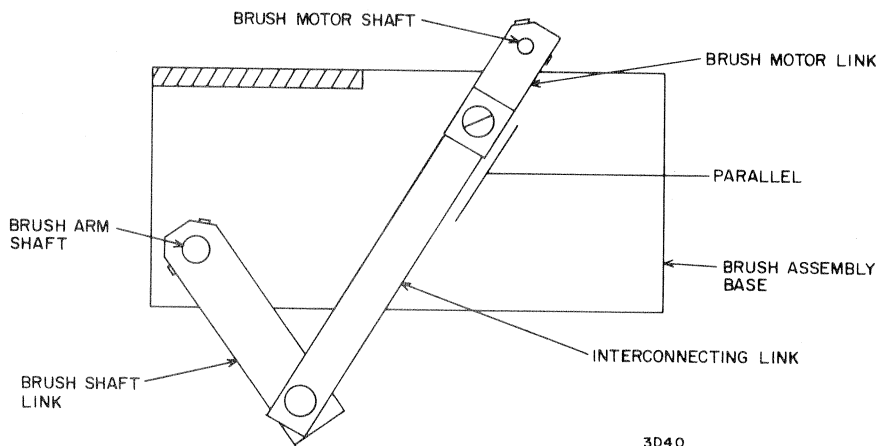

Figure 6-4. Brush Linkage Adjustment
13. Connect the brush motor link to the motor shaft. Align the linkage as it appears in Figure 6-4. Tighten the two setscrews.
9. Move the brush holder against the rubber stop so that the linkage appears as it is in Figure 6-4.